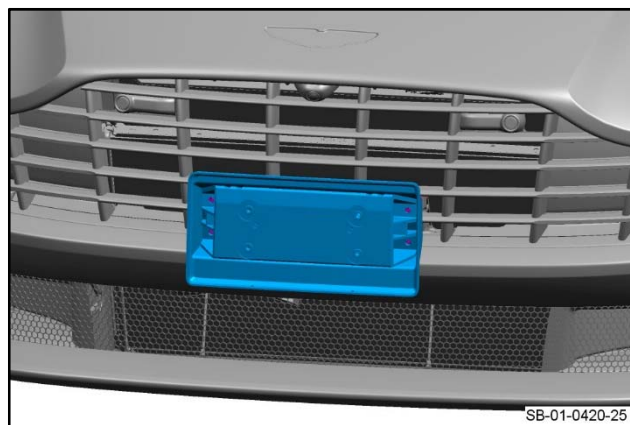

Figure 25
4. Put the bolster assembly into position (refer to Figure 25).